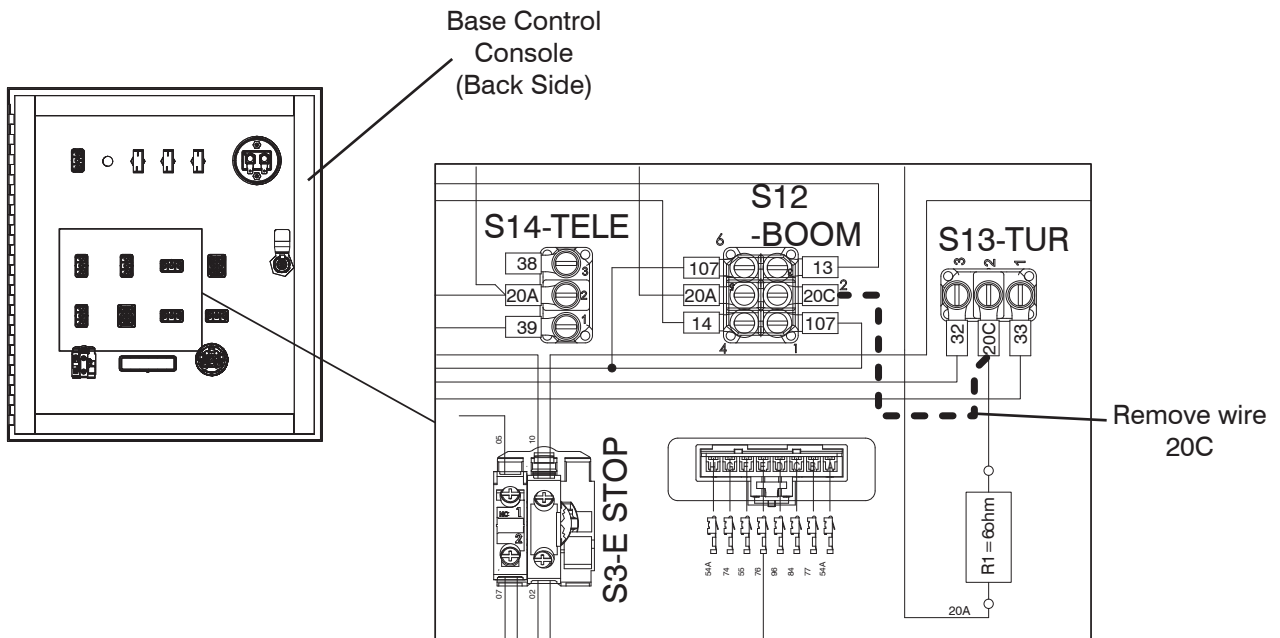

Figure 2-1. Base Control Console
3. On the back side of control console door, locate wire 20C. First remove the one end from switch (S12-BOOM) then cut the other end at switch (S13-TUR) Discard wire. See Figure 2-1.